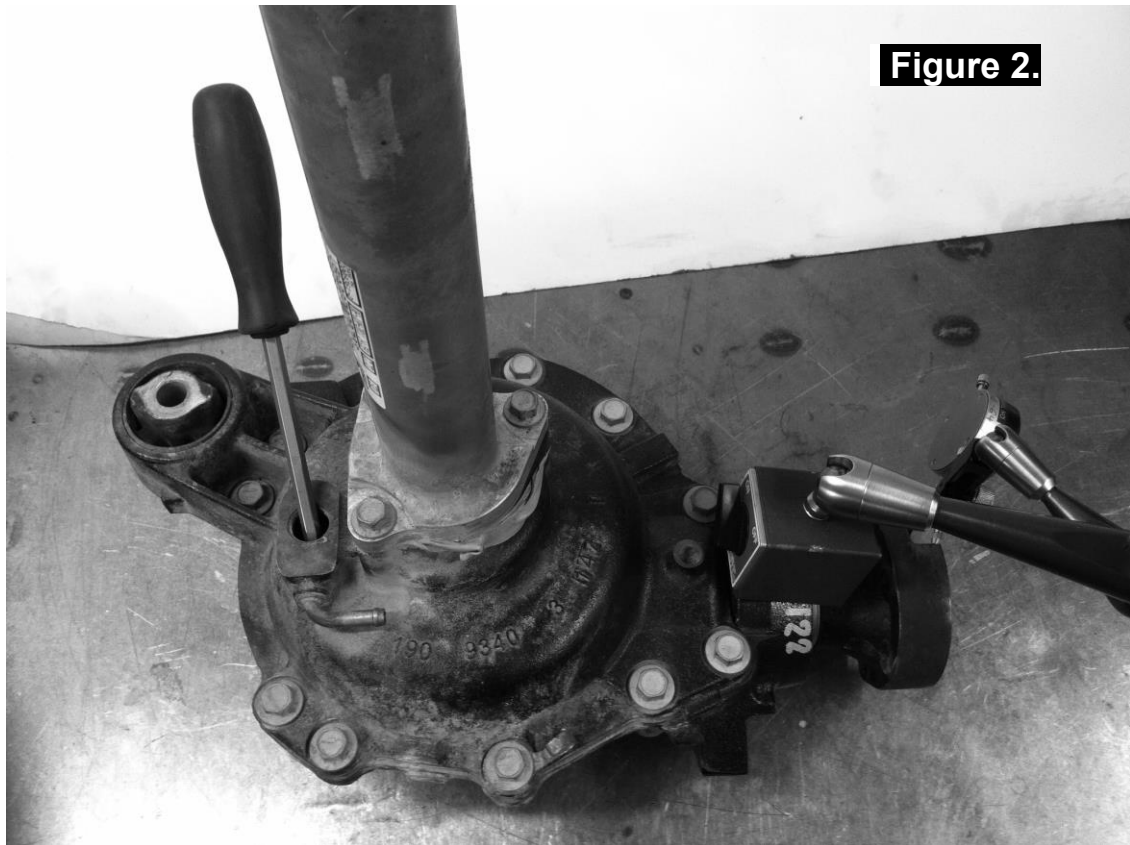

Figure 2.
- ☐ Insert a large flat screwdriver or pry-bar through the oil fill hole so that you can stop the differential from rotating (Figure 2.)